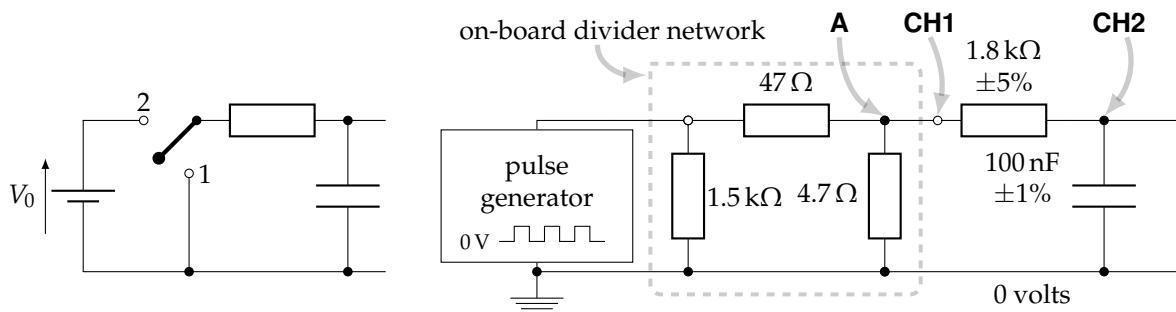

Figure 2: Switching circuit to test the model (left), drawn to help you make up the circuit (right).
Look at the left-hand diagram in figure 2. We could apply a voltage that steps from zero to V_0 and then from V_0 back to zero (a *pulse* voltage) with this circuit by moving the switch abruptly to position 2 and then back again. But to see what happens on our oscilloscopes we need to keep applying voltage steps; we need a *train of pulses*. This can be obtained from the signal generator by selecting square wave output with a ‘Low’ value of zero, and a ‘High’ value equal to the pulse-height wanted. (This can also be done by selecting the pulse output, which allows the duty cycle to be controlled). However, the output (internal) resistance is not negligible (50Ω), so to reduce the effect of this on your measurements, we use a resistive divider network on the board, as shown in the diagram on the right-hand side in figure 2. This reduces the output impedance of the pulse source to close to 4.6Ω (but at the price of reducing the amplitude of the pulse). The point ‘A’ in figure 2 is also labelled ‘A’ on the circuit board.
Connect the circuit as shown in figure 2, with the two ‘scope channels connected at **CH1** and **CH2** in the diagram. Use ‘scope probes and remember to calibrate them, see section 2.5.4 of the Manual. Also recall that all the ground leads from the probes must go to the conductor defined to be 0 V earth. Set the ‘scope probe attenuation to $\times 10$ (yellow and blue buttons, “Probe Voltage” menu), trigger from channel 1 and set both inputs to DC coupled. On your AFG make sure that the square wave symbol is illuminated, that the “Low” level is zero and the “High” level is set to 5 V. Choose a pulse length long enough for V_2 to reach a steady value before the next voltage step comes along. Observe and sketch the voltages V_1 (on channel 1) and V_2 (on channel 2).
► What would be the effect of removing the wire connected between position 1 of the switch and ground in figure 2 and replacing it with an inductor, L and the switch moved from position 2 to position 1? What would be a mechanical analogue of this circuit? What would happen if instead the inductor was put in series with the battery and the switch moved from position 1 to position 2?